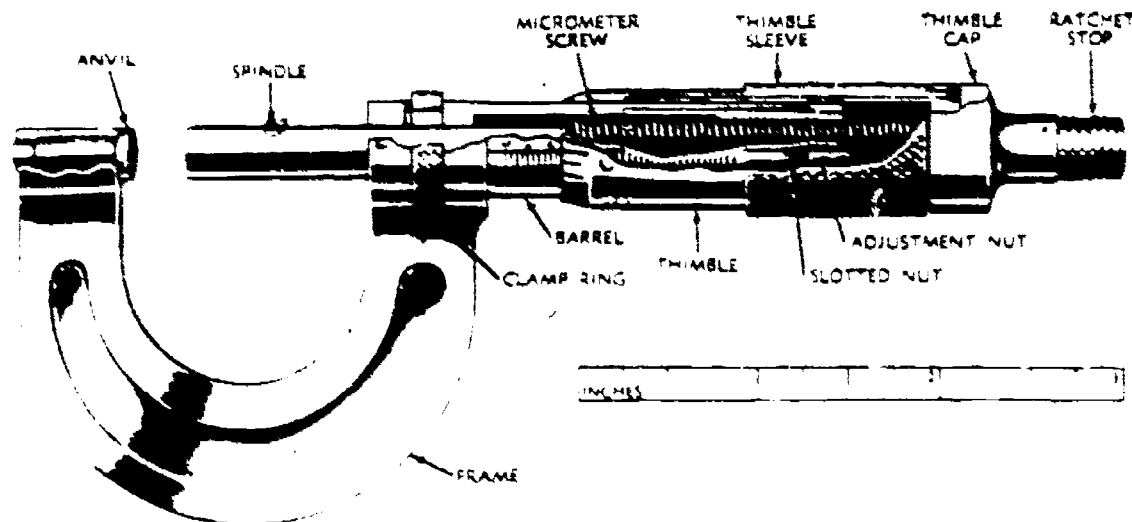

FIGURE 2
(2) Accurate to .0001". Reading a micrometer is a simple task. The piece of material to be measured is placed between the measuring faces. The ratchet stop is turned clockwise until the ratchet starts clicking. The spindle will then be in good contact with the material, but yet not so tight that the material cannot slide between the measuring faces with a slight drag. The micrometer can then be read. Two scales are used to make the reading. The first is on the barrel, running horizontal to the user's view. The other scale encircles the thimble at right angles to the user's view. Each graduation on the barrel denotes .025 inch. Each graduation on the thimble denotes .001 inch. (See figure 2)